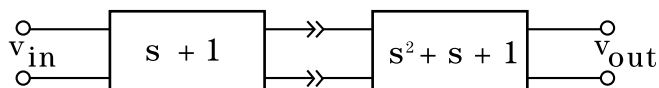

Figure 1
- Prepare a design that will meet the requirements of your particular filter project specifications. During the design process divide the circuit into stages. For example, the stages in Fig.1 describe the two cascaded OP AMP circuits that make up a third-order Butterworth filter. This piecemeal approach simplifies the design process and makes trouble-shooting easier.